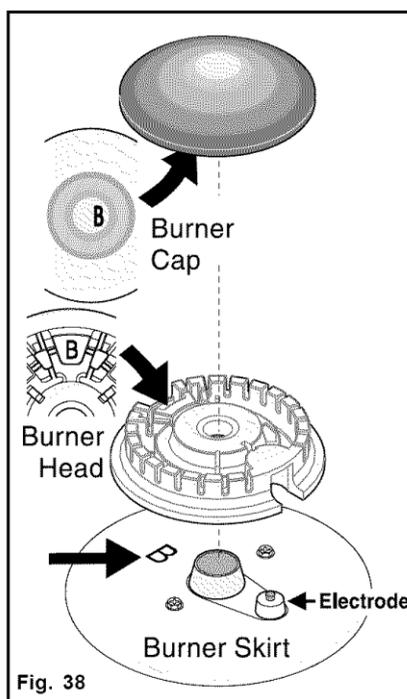
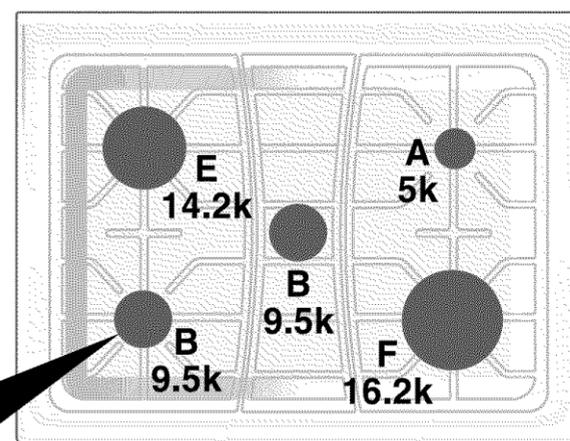
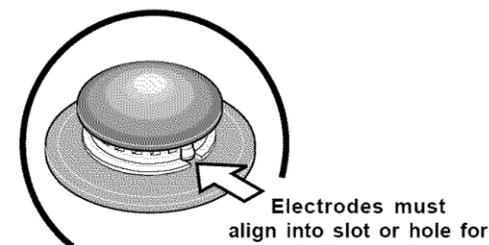

Fig. 38
Fig. 39 Front of cooktop
Fig. 40
4. To replace Burner Heads & Caps, match the letters located under center of Burner Caps with the letters located inside Burner Heads (Fig. 38).
5. Match the letters stamped on Burner Skirts with Burner Heads and Burner Caps (See Fig. 38). Replace the Burner Heads and Caps on cooktop (See Fig. 39). Carefully align the Electrodes into slot or hole of each Burner Head (Fig. 40). Note: The Burner Heads should sit flat on Cooktop Burner Skirts.